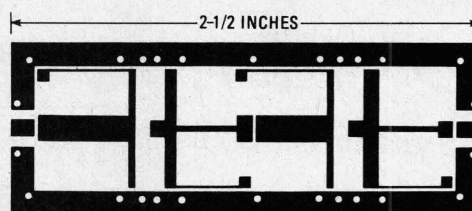
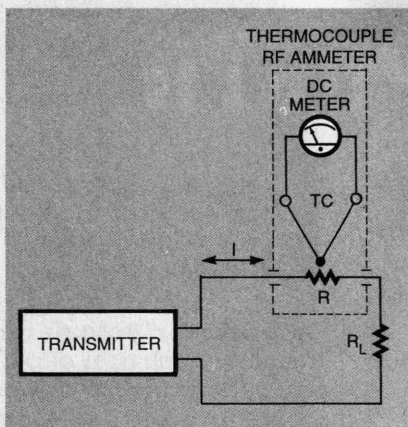

FIG. 2—PATTERN for etching the top surface of the LNA microstrip board. The lower surface is plain copper.
Fig. 1. The thermocouple RF ammeter relies on heating a very low value resistive heating element (R) to measure RF power.
of Sheffield has developed a two-stage circuit board using this device series and it is shown in Fig. 1. A full-size circuit board is shown in Fig. 2. The opposite side of the board—which, as a
FIG. 1—SCHEMATIC DIAGRAM of the two-stage bipolar low-noise amplifier. The shaded areas represent leads and inductors that are vital parts of the circuit design.
Figure 1 shows the merged horizontal-deflection and power-supply circuitry of the 1980 Sharp 19D82 chassis. That receiver typifies the general circuit-design direction. The main chassis consists of four integrated circuits (two more are used in the tuning system) surrounded by a relative sparsity of discrete components.
The set's schematic displays an unusual neatness and simplicity for a color television receiver. Although the innards of the IC's themselves are shown in Fig. 1 as blocks, the schematic seems to lose many of the mysteries that were inherent in the esoteric, discrete designs of the past. It is no longer necessary for manufacturers to use every circuit trick possible to keep costs under control.
RF Ammeter Methods. The thermocouple RF ammeter (see Fig. 1) is an inherently rms-reading device because it relies on heating a very low value resistive heating element (R). The temperature of the heating element is measured by a thermocouple device (TC in Fig. 1), which produces a voltage proportional to the temperature of the thermocouple junction. A DC voltmeter is used
A number of professional-grade RF-power meters are based on the fact that the temperature change in a resistive load is proportional to the rms value of the applied RF waveform. Figure 2 shows a basic form of calorimeter or bolometer: A heat-dissipating resistor with a resistance value equal to the desired load impedance is enclosed in an assembly with some sort of temperature-measurement device.
Fig. 2. In the bolometer/calorimeter approach to measuring RF power, a heat-dissipating resistor with a resistance value equal to the desired load impedance is enclosed in an assembly with some sort of temperature-measurement device. A number of commercial devices are based on this approach.